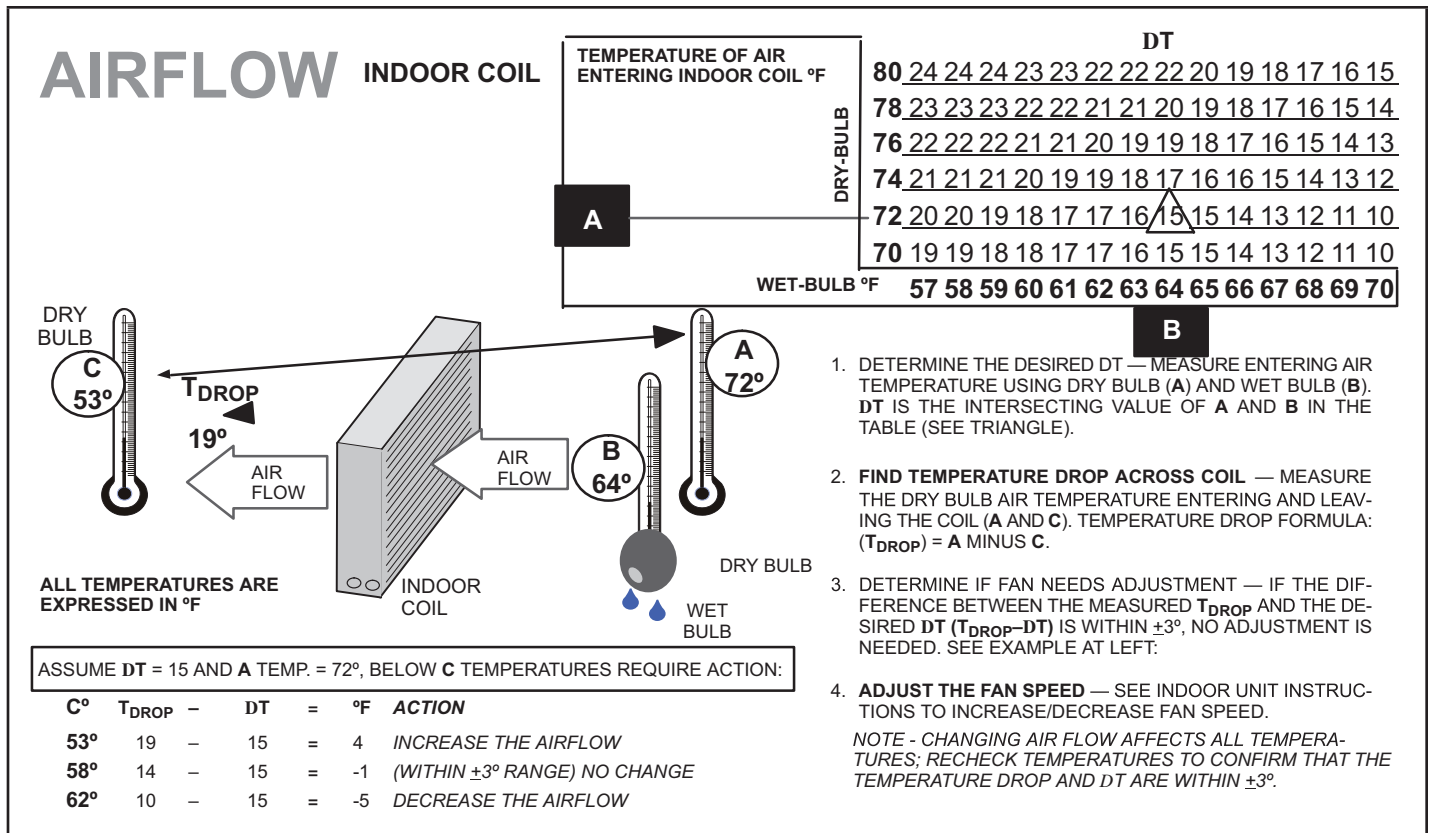

FIGURE 45. Checking Indoor Airflow over Evaporator Coil using Delta-T Chart
- 2 - Check and adjust indoor airflow as described in figure 45.
Check airflow using the Delta-T (DT) process using the illustration in figure 45.